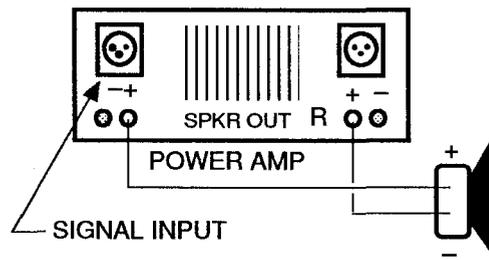

Figure 12-10. Power amp bridged output connection
A bridged amplifier is connected to the load as shown in Figure 12-10. Note that the load is connected across the two hot output terminals. The left channel output is normally the positive connection, and the right is the negative. The load is thus driven in a push-pull mode, and the RMS voltage across it, for a given input signal level, is effectively double what it would be if the load were connected across one channel only.
**NOTE:** The term bridged, in this context, refers to the speaker load being connected across two channels' outputs, per Figure 12-10. Sometimes, in the context of low level audio signals (i.e., preamplifier outputs), the term bridged has another meaning; it may mean that the impedance of the load is at least 10 times the impedance of the signal source (as contrasted with matched where the impedance of the source and load are roughly the same. For example, a synthesizer with 2.5 kohm actual output impedance will be bridged by the 25 kohm actual input impedance of a particular mixer; this bridging has no relationship to the bridging of a power amp output being discussed in this section of the handbook.